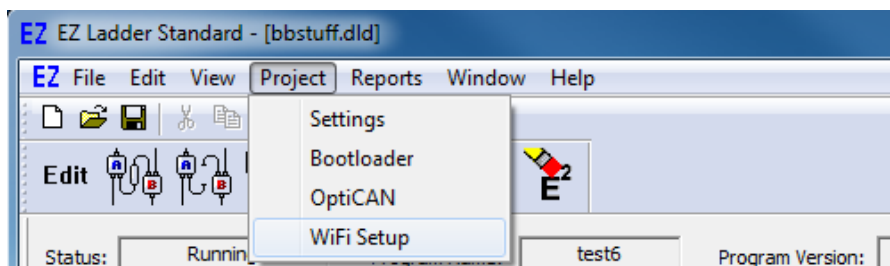

Figure 2-12 - Access WiFi Setup
4. From the menu at the top, select **PROJECT** then select **WIFI SETUP**. Refer to Figure 2-12.